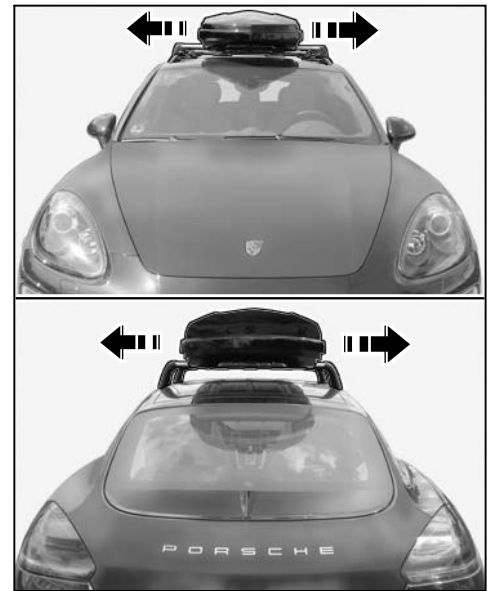

Figure 5
4.8.1 Sideways, with respect to the longitudinal axis of the vehicle (\Rightarrow Figure 5):